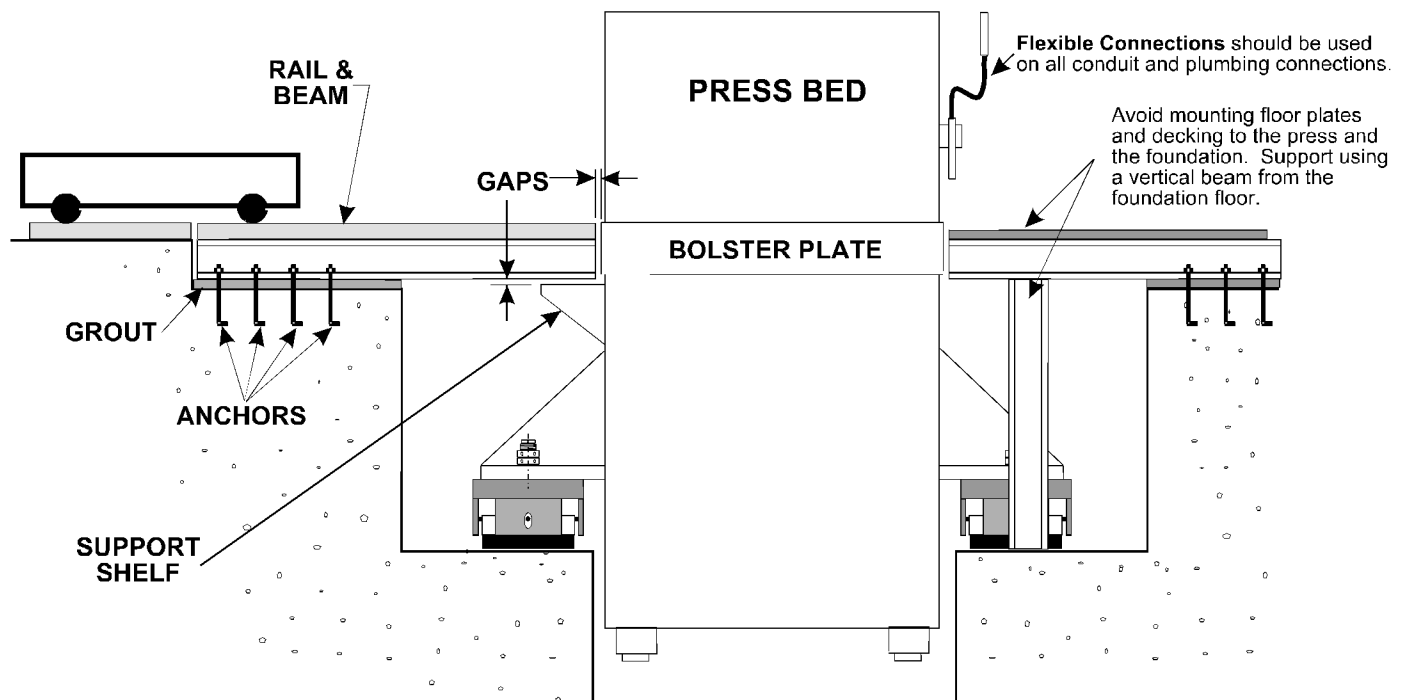

FIGURE 4
One of the following methods, shown in Figures 4 & 5, should be used. Either method will allow the press to move slightly up and down during operation and not restrict leveling adjustments.
1) METHOD ONE (Figure 4)
- ▶ The end of the beam/rail can also be supported by a vertical beam supported by the foundation pit or floor similar to the floor plate and decking recommendation shown in Figure 4.